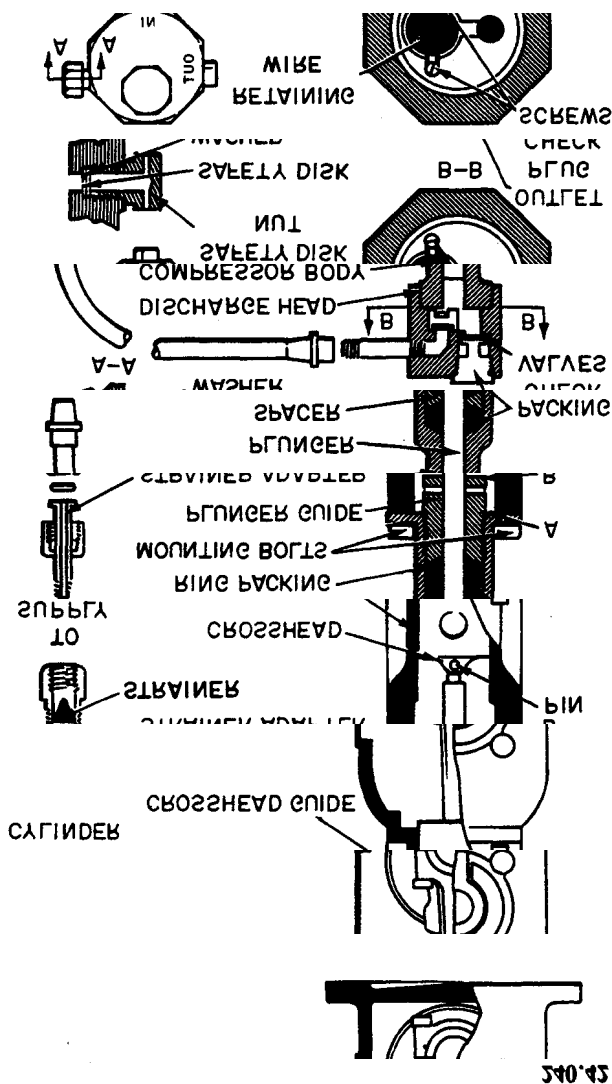

Figure 3-8.—Compressor assembly of the Walter Kidde CO₂ transfer unit.
vapor leak will not affect the performance of the pump; no particular effort need be made to eliminate a leak unless it reaches the point at which it becomes visible. If a leak should develop at the lower end of the plunger, tighten the plunger guide, shown in figure 3-8, with a rod (approximately 3/8 inch by 6 inches). Do not bind the plunger by tightening it too snugly. When you can no longer adjust the tightness of the plunger guide, remove the compressor body from the frame and insert new packing as follows:
3. Remove the plunger guide and insert the small ring of the packing. Install the packing so that the level fits the packing already in place and the plunger guide. Replace the plunger guide and turn it in until the maximum dimension between the body at point (A) and the end of the plunger guide (B) (figure 3-8) is 1 3/16 inches. If the plunger guide is not screwed in sufficiently, the crosshead will strike the plunger guide. To free the plunger, work it back and forth several times.